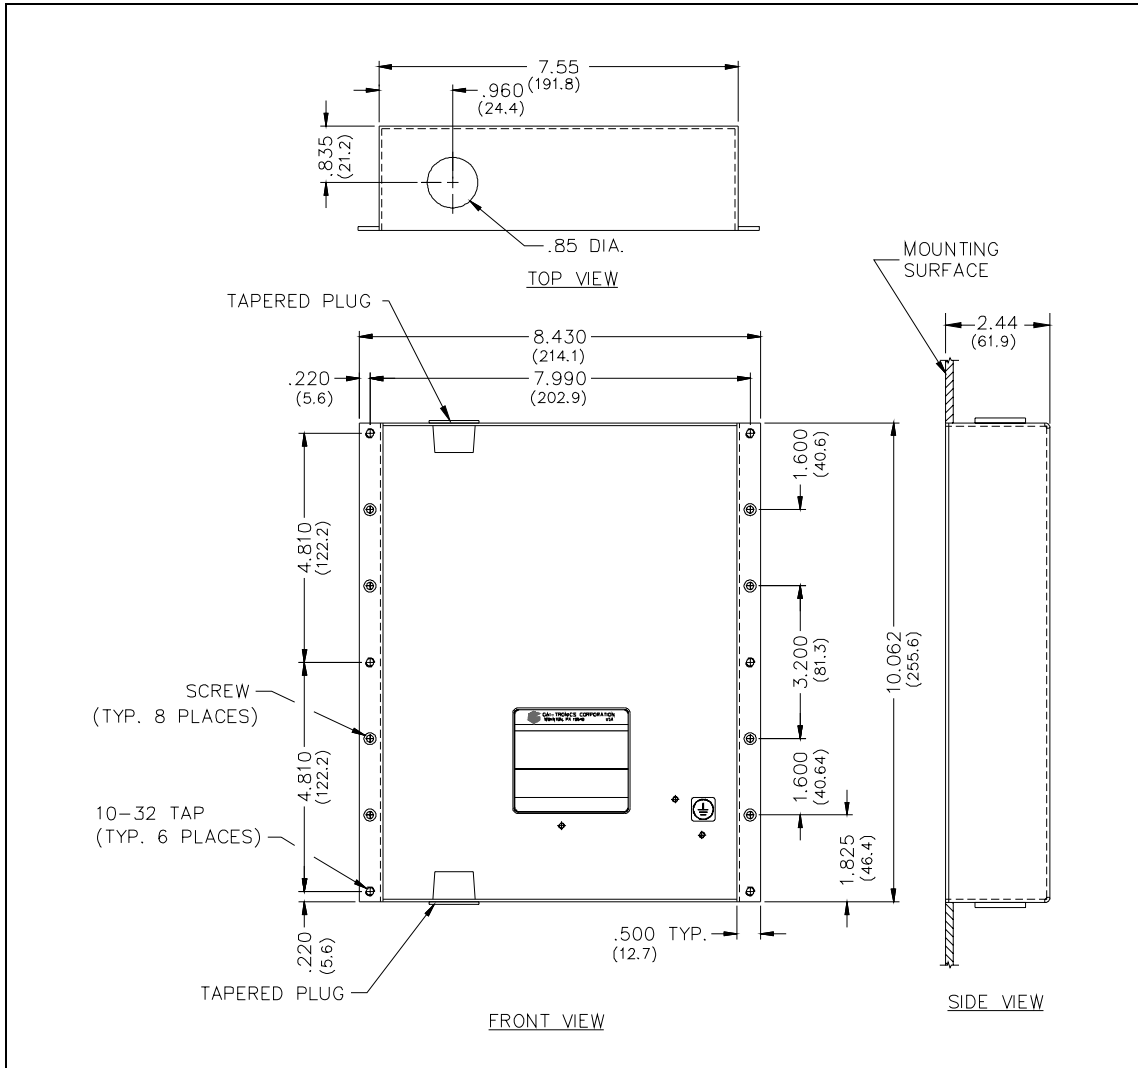

Figure 6. Model 297-003 and 298-003 Mounting Details
1. For flush-mount installations, mount the included back box in the desired location using appropriate hardware. Refer to Figure 6 for cutout dimensions.